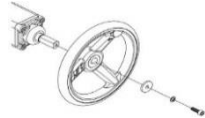

Figure 1
a. Slide fixing screw through washers and handwheel and secure them to override shaft as shown in the figure below (figure 1).